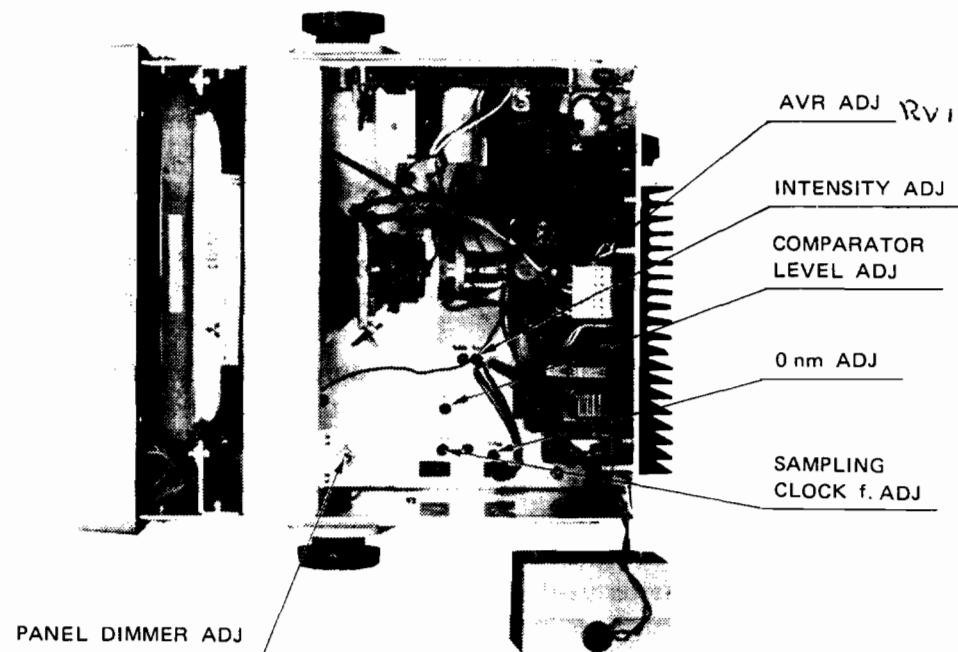

FIG. 5-3 DISPLAY UNIT ADJUSTMENT
5.1.2 0 nm (Zero nm) ADJUSTMENT (*See Fig. 5-3*)